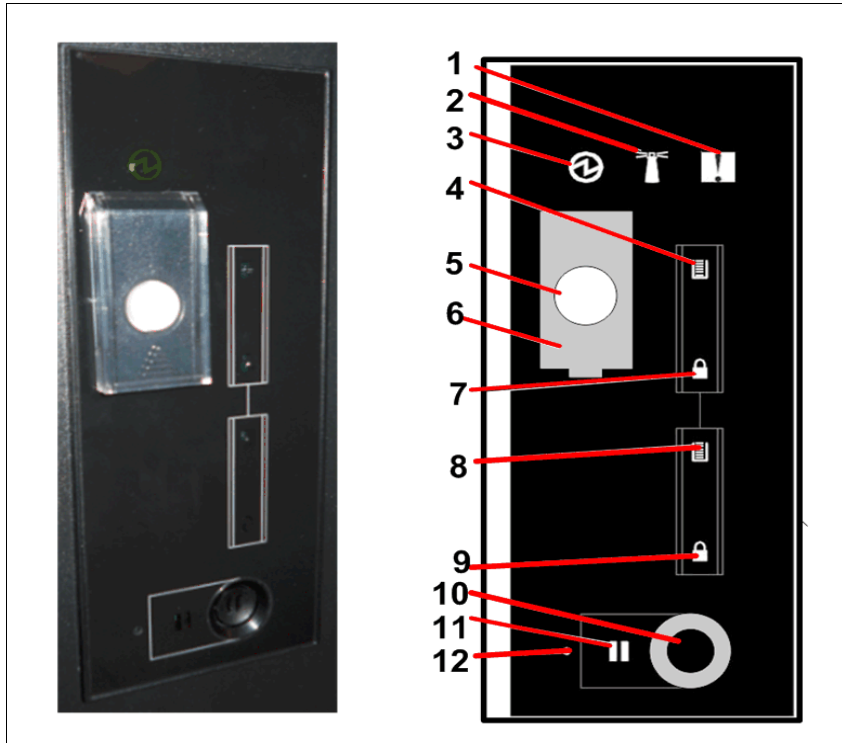

Figure 1-50 Display panel
The display panel on the base frame of the TS4500 Tape Library houses the library power and pause buttons. It displays library and I/O status indicators, as shown in Figure 1-50 on page 56.
You can pause the library by pressing the pause button on the display panel (number 10 in Figure 1-50 on page 56) on the base frame of your TS4500 Tape Library. This pause button causes the library to move the cartridge accessor to the base frame and pause operations for 30 seconds or while a frame door is open. The pause light next to the pause button stops flashing, and it illuminates solid to indicate that the library is paused (number 11 in Figure 1-50 on page 56).
1. From the display panel on the base frame of the library, slide the plastic cover that protects the power button up to make available the button (number 6 in Figure 1-50 on page 56).
2. Press the power button (number 5 in Figure 1-50 on page 56) and wait to see that the green power indicator turns on and stays on.
2. Pause the library by pressing the pause button on the display panel (number 10 in Figure 1-50 on page 56) on the base frame of your TS4500 Tape Library. This pause button causes the library to move the cartridge accessor to the base frame and pause operations for 30 seconds or while a frame door is open. The pause light next to the pause button stops flashing, and it illuminates solid to indicate that the library is paused (number 11 in Figure 1-50 on page 56).
3. From the display panel on the base frame of the library, slide the plastic cover that protects the power button up to make available the button (number 6 in Figure 1-50 on page 56).
4. Press the power button (number 5 in Figure 1-50 on page 56) and wait until the green power indicator light turns off.
Press the Access Recovery button (see Figure 1-50 on page 56) then, log in to the GUI by using `admin` for the username and password.